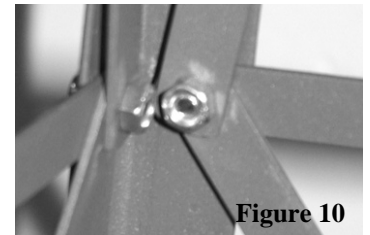

Figure 10
Attach the Cross Braces (Q) in an "X" configuration in the middle and top tier as shown in Figure 9. The Cross Braces (Q) will connect with the Legs in the same spots as the Middle Braces (O) and the Bottom Braces (P). You will need to unscrew the Brace Nuts (M) at these joints, slide the Cross Braces (Q) over the Brace Bolts (L) and on top of the Middle Braces (O) or Bottom Braces (P), and re-secure with the Brace Nuts (M), as seen in Figure 10.